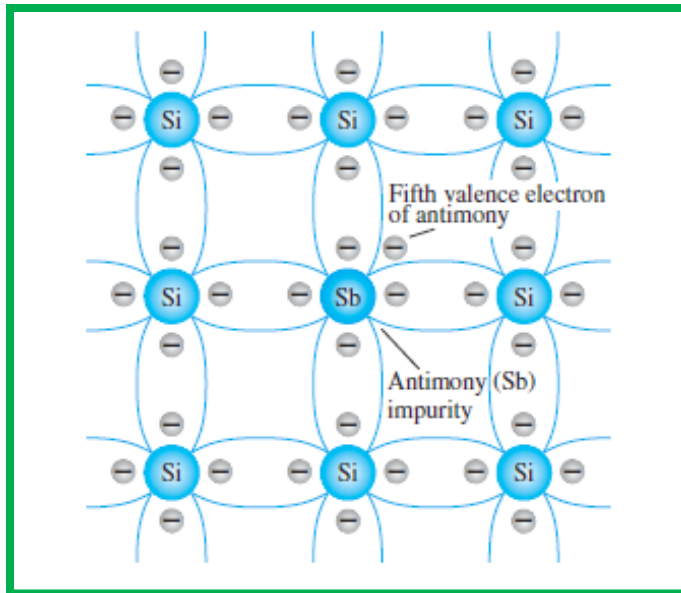

Figure 1.5: Antimony impurity in *n*-type material.
- ✓ Formed by addition of pentavalent impurity elements, from Group V of the periodic table, such as antimony, arsenic, and phosphorous to a Si base or substrate, see Figure 1.5.